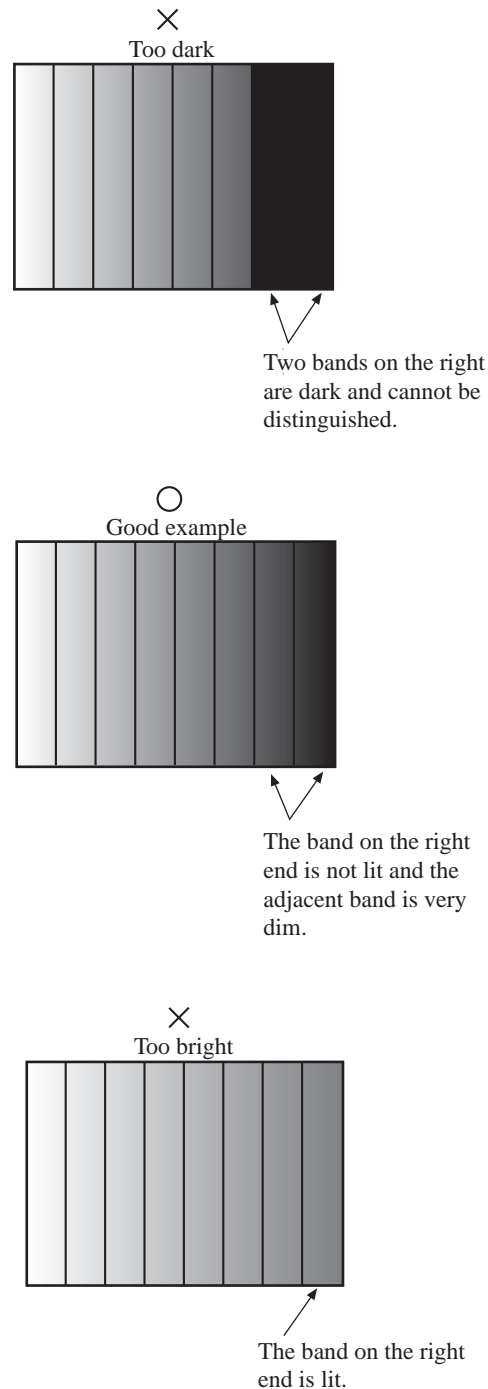

Fig 2-2
- (1) Receive a NTSC staircase signal (color bar with chroma off).
- (2) Adjust SFR302 so the band next to the right end start to light. (See Figure 2-2)